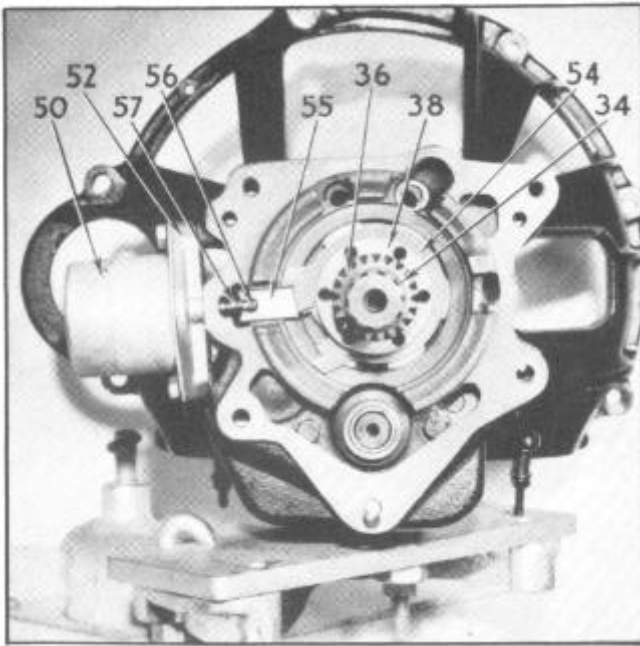

Figure 26--Removing Pinion Cage Snap Ring and Stationary Gear Pawl
7. Remove solenoid (50), Figure 26, base (52), operating rod (56) and spring (57).
8. Remove pinion cage retaining snap ring (34) from main shaft. Pull stationary gear (36), plate (38) and balk ring (54) off main shaft as an assembly. Lift out gear pawl (55).